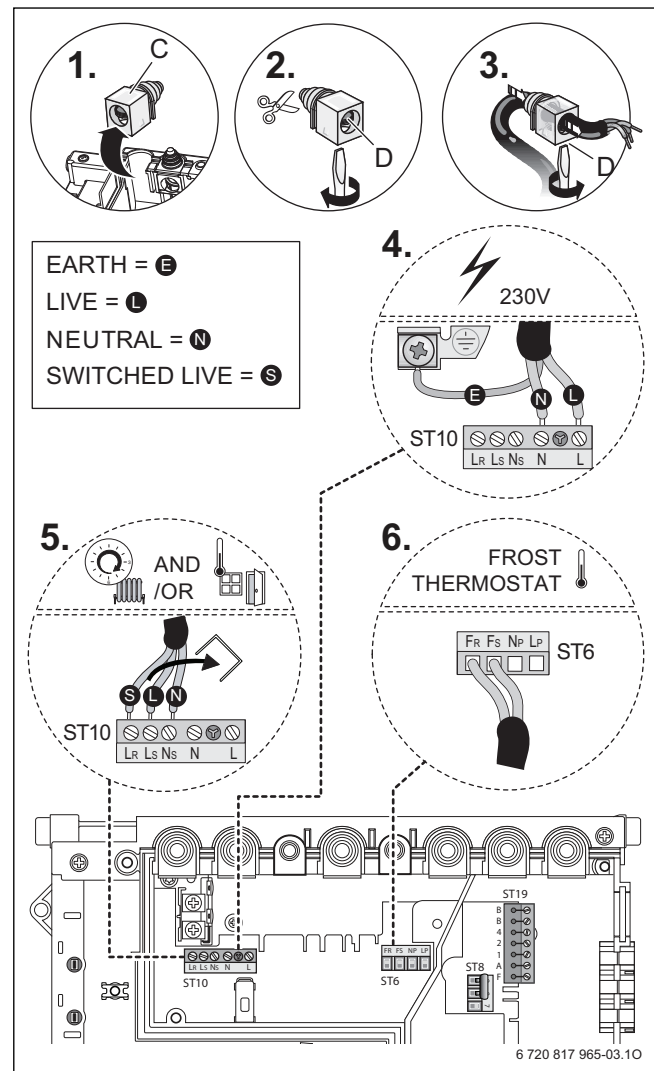

Fig. 30 Electrical connections
1. Unclip the cable clamp (C) (→ Fig. 30).